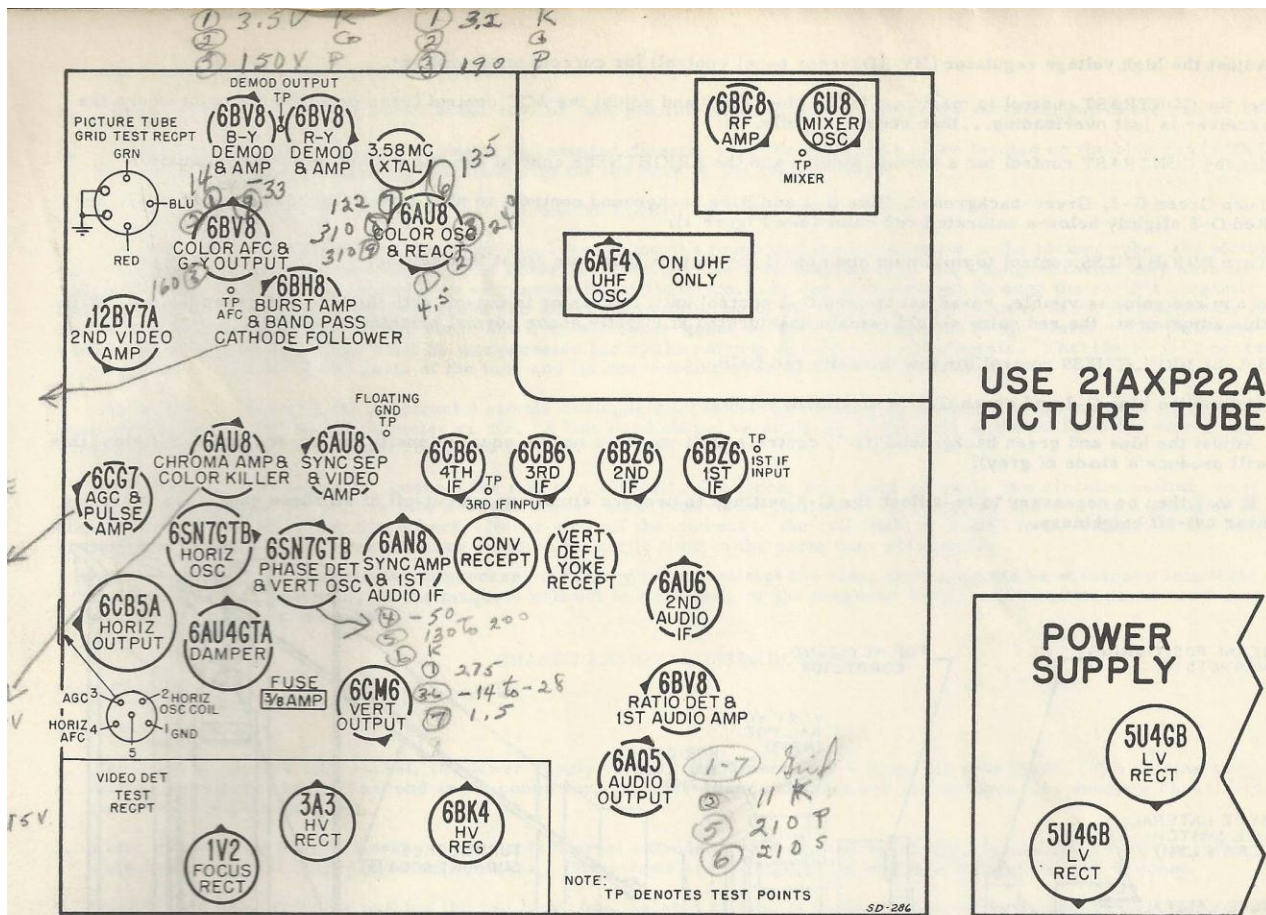

FIGURE 3. TOP VIEW OF CHASSIS
2. Short HORIZ AFC to ground with a piece of wire at pin #4 of the SERVICE TEST RECEPTACLE (see Figure 3).